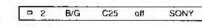

Fig. 24
- After selecting all the characters, press OK repeatedly until the cursor appears by the next programme position (at the left margin). Now the caption you chose is stored. (See Fig. 24.)